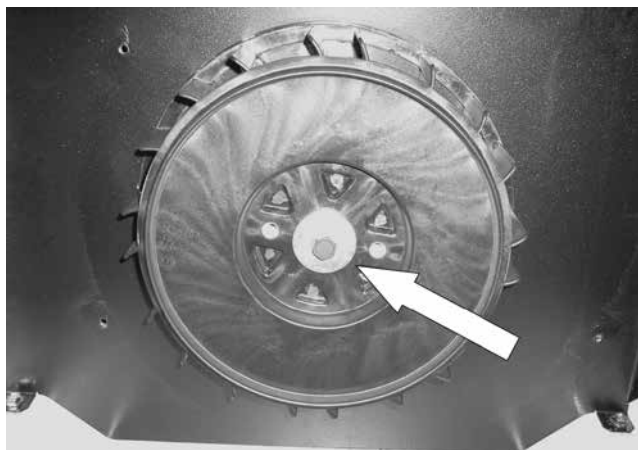

Figure 259.
7. **Remove Fan Housing Cover:** Using a 10 mm socket remove four bolts from the fan housing cover (if equipped). Remove the fan housing cover. See Figure 259.